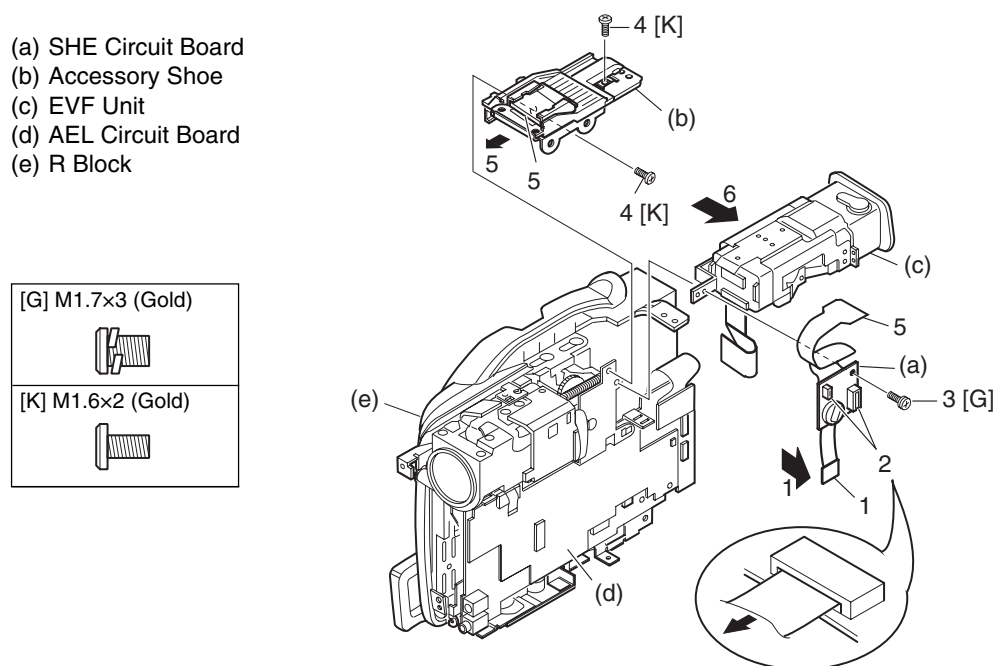

Fig. 5-3-12 SHE Circuit Board, Accessory Shoe, and EVF Unit
(10) SHE Circuit Board, Accessory Shoe, and EVF Unit (Fig. 5-3-12)